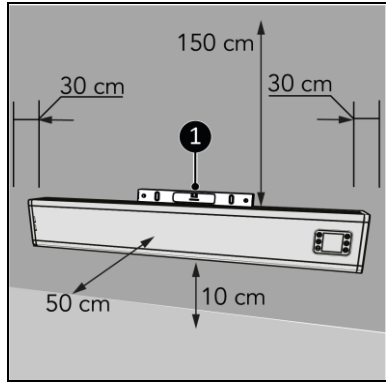

Figure 8
1. Place the device on a vertical and solid surface. Use a spirit level when placing the device (Figure 8, pos. 1).
2. Place the device with a minimum distance (Figure 8) of: